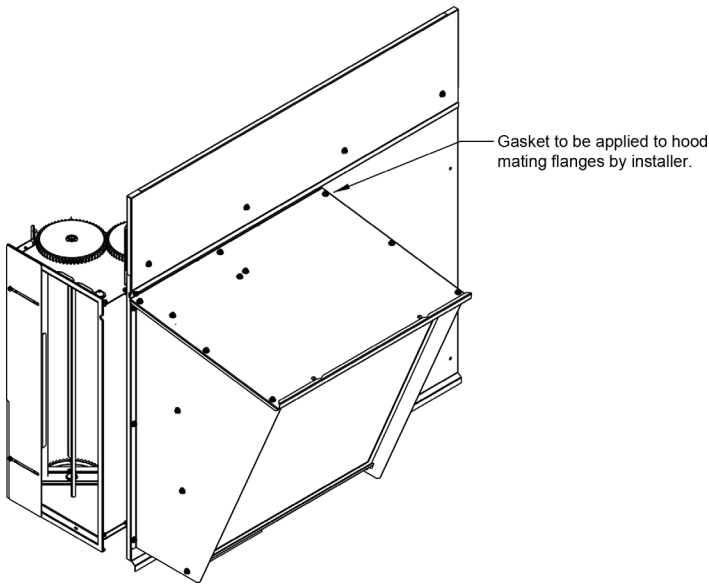

FIGURE 8 - FULLY ASSEMBLED HOOD
- Apply gasket from the hardware bag to the mating flanges of pre-assembled economizer hood. Then fasten the hood to the economizer cover panel using provided screws. (See Figure 8)